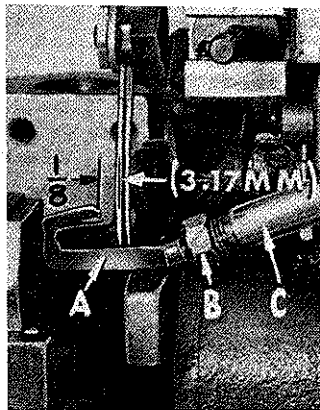

Fig. 4
At this point, insert lower spreader (A, Fig. 4) or lower looper (depending on the Style of machine) into bar (B). With the lower spreader or lower looper at the left end of its stroke, set the spreader point or looper point  $\frac{1}{8}$  inch (3.17 mm) to the left of left needle centerline using looper gauge No. 21225 G- $\frac{1}{8}$ . Do not have lower spreader or lower looper deflecting the needles. Tighten nut (C).